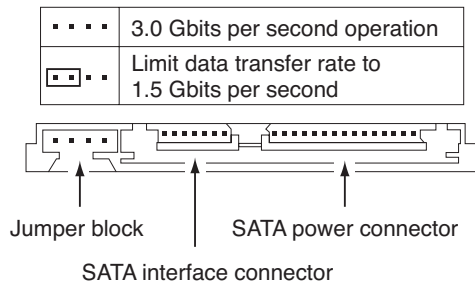

Figure 2. Serial ATA connectors
- Install a jumper as shown in Figure 2 below to limit the data transfer rate to 1.5 Gbits per second (and leave the drive connected to the SATA-equipped motherboard or host adapter that doesn't support autonegotiation) or
- Install a SATA host adapter that supports autonegotiation, leave the drive jumper block set to “Normal operation” (see Figure 2 below), and connect the drive to that adapter. This option has the benefit of not limiting the drive to a 1.5 Gbits/sec transfer rate.